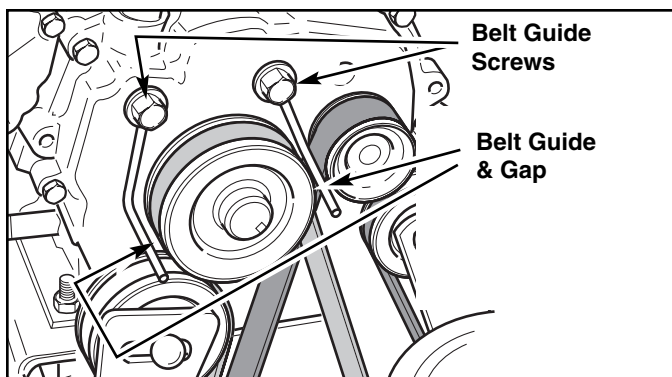

Figure 26. Auger Belt Guide Adjustment
1. With the auger control still fully depressed, adjust the auger belt guide(s) so that there is a 1/64" gap (1/32" Maximum) between the guide and the belt (Figures 26), making certain the guide is NOT putting pressure on the belt.
2. Making certain the auger belt guide does NOT move while doing so, tighten the auger belt guide screw (Figures 26) to secure the guide.
3. Check the adjustment on the auger belt guide(s) (Figures 26) to make certain that the gap between the belt and the belt guide is correct.
4. Loosen auger belt guide and slide belt off engine pulley and away from idler pulley. (See Figure 26).